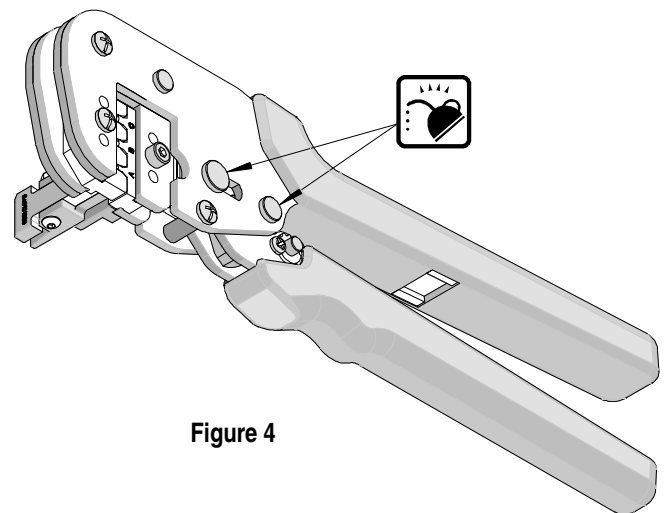

Figure 4
3. Make certain all pins; pivot points and bearing surfaces are protected with a thin coat of high quality machine oil. Do not oil excessively. Light oil (such as SAE30W oil) applied at the oil points, shown in Figure 4, every 5,000 crimps or 3 months, is recommended.